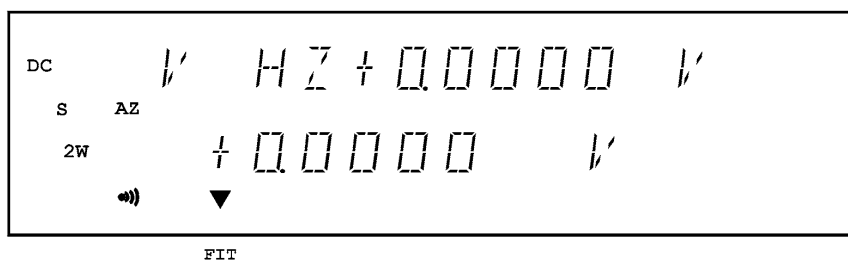

Figure 1-9 VSVM Measurement (In output OFF Standby)
5. Press **MON** twice to start measuring the voltage. (Figure 1-9).